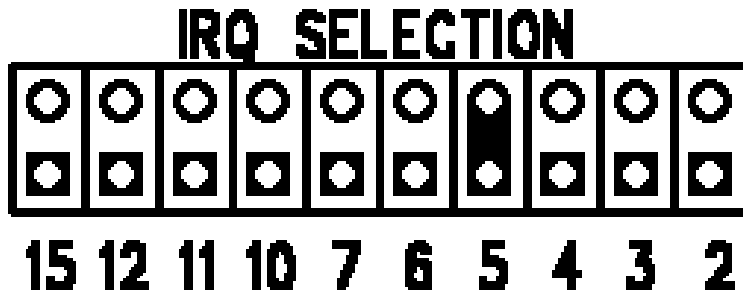

Fig. 2-3: Interrupt set to IRQ 5.
- Fig. 2-3: Interrupt jumpers
The header connector, shown in Figure 2-3 below, lets you connect the onboard SJA1000 CAN controllers interrupt outputs to one of the interrupt channels available on the host XT/AT bus. If your board has no AT-extension interrupts, IRQ 10-15 are not available.